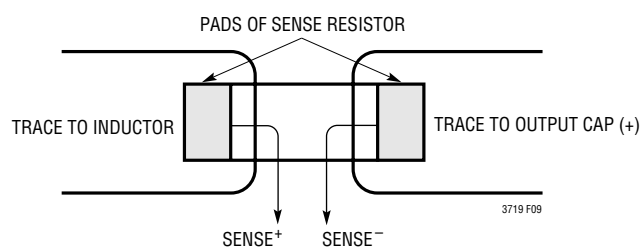

Figure 9. Proper Current Sense Connections
3) Are the  $SENSE^-$  and  $SENSE^+$  leads routed together with minimum PC trace spacing? The filter capacitors between  $SENSE^+$  and  $SENSE^-$  pin pairs should be as close as possible to the LTC3719. Ensure accurate current sensing with Kelvin connections at the current sense resistor. See Figure 9.